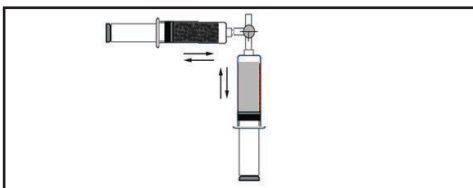

Figure 11.
- 2.5 Gently mix by slowly pushing the contents from one syringe to the other. Mix solution until microspheres are suspended (Figure 11).